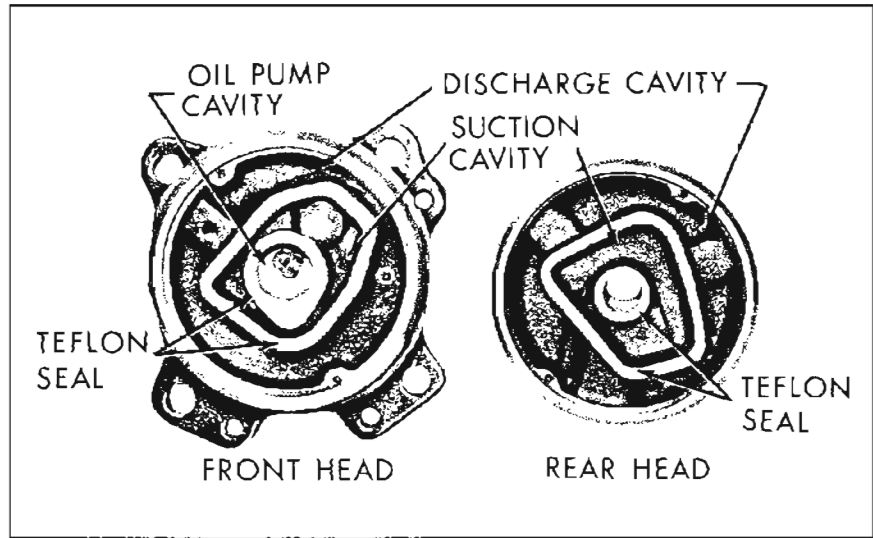

Figure 11-31—Compressor Front and Rear Heads
2. Front and Rear Heads—The front and rear heads (Figure 11-31) serve to channel the refrigerant into and out of the cylinder heads. The front head is divided into two separate passages and the rear head is divided into three separate passages. The outer passage on both the front and rear heads channels low pressure gas to the suction valve reeds. The middle passage on both front and rear heads channels high pressure gas to the discharge valve plate reeds. The inner passage on the rear head houses the oil pump inner and outer rotors. A teflon sealing material is bonded to the sealing edges separating the passages in the front and rear head. "O" rings are used to affect a seal between the mating edges of the heads and the shell. The front